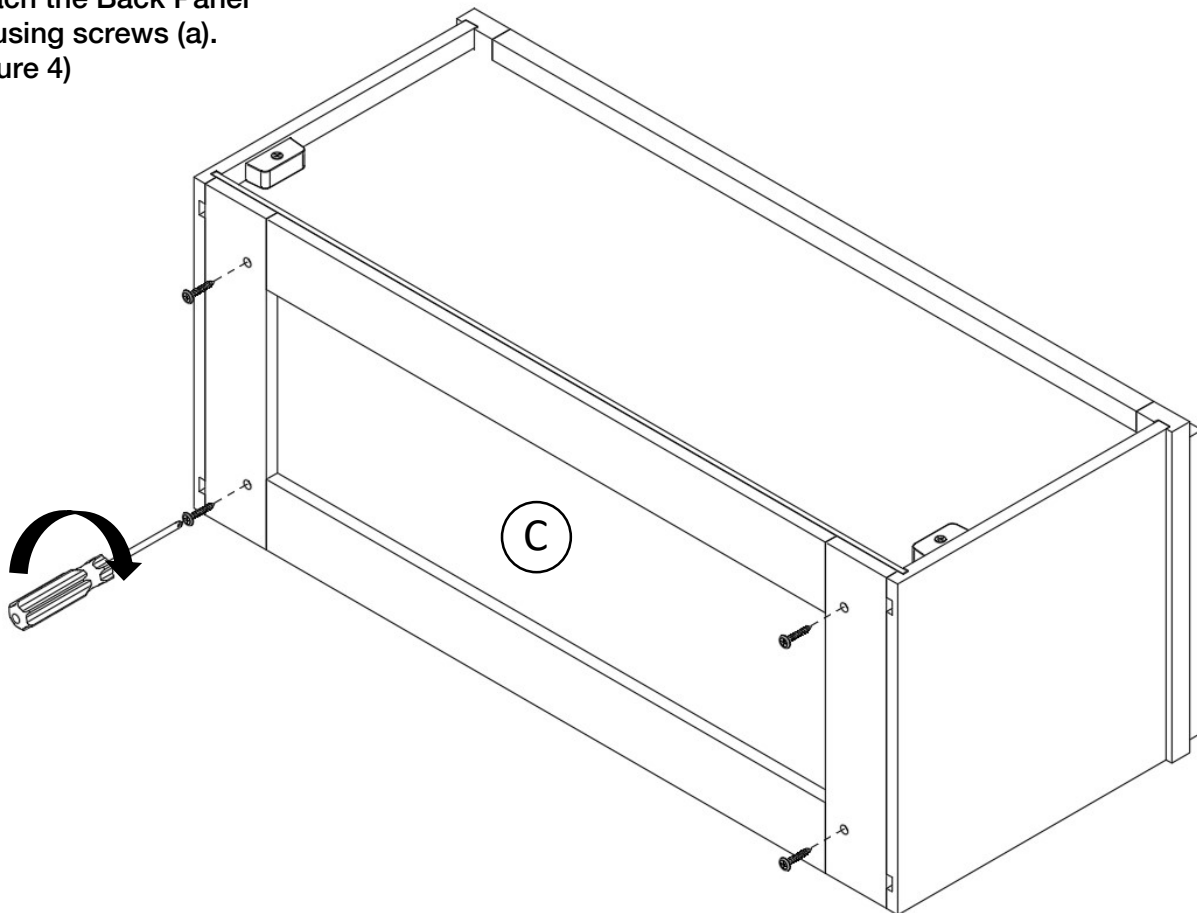

Figure 4
Attach the Back Panel (C) using screws (a). (Figure 4)